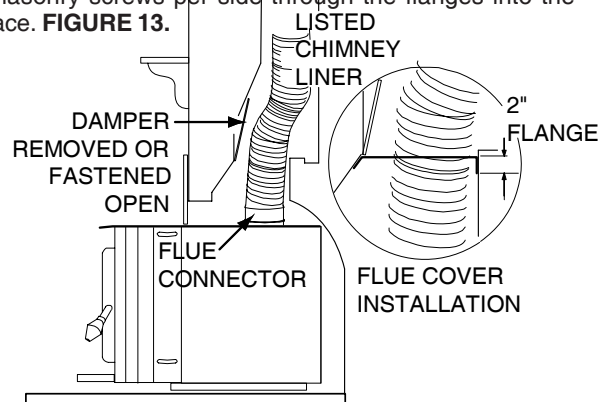

FIGURE 13 MODEL 1401 Illustrated
2. *Measure the throat of the fireplace and mark this shape on a piece of 24 gauge sheet metal (flue cover); cut a six-inch (6.75") hole to lie directly below the fireplace flue opening. Allow two inches of material for a flange on all sides and cut to these measurements. Bend down the flanges. If you have never done this before, it might be a good idea to make a cardboard pattern and test it first. Fasten this flue cover in position as high as possible with two masonry screws per side through the flanges into the fireplace. **FIGURE 13**.